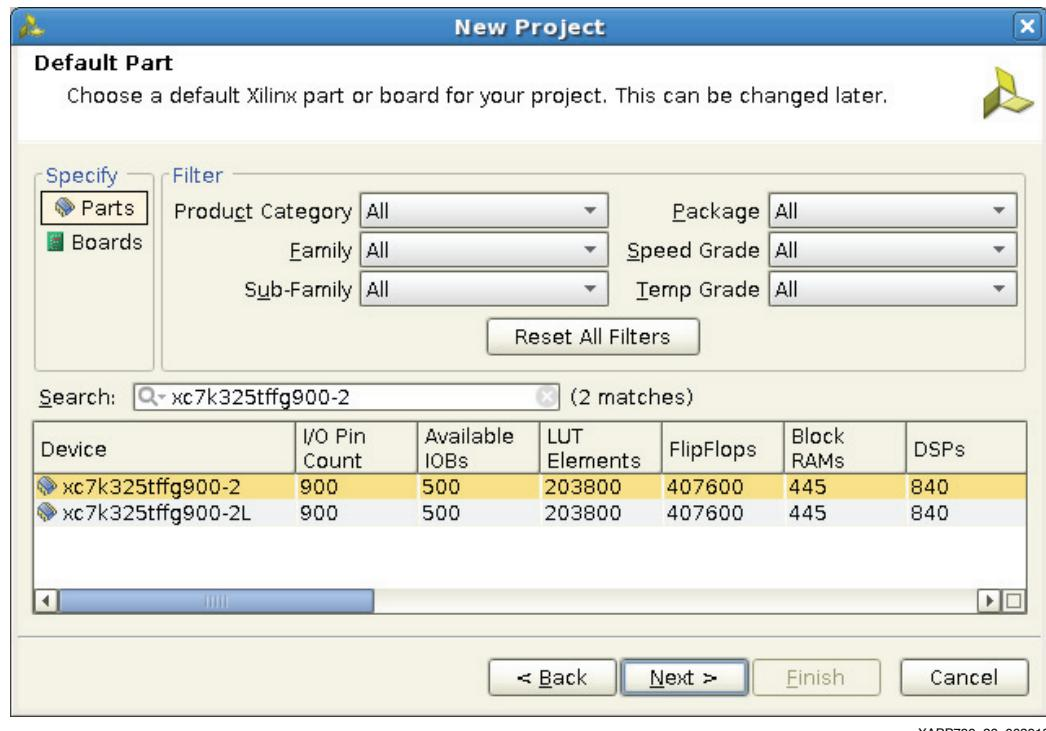

Figure 26: New Project Window (Default Part)
11. Select **xc7k325tffg900-2** in the Default Part window by entering the part number in the search text box and click **Next** (Figure 26). Alternatively, the part can be selected by choosing the Kintex-7 KC705 Evaluation Platform by selecting **Specify > Boards and Filter > Family > Kintex-7**.